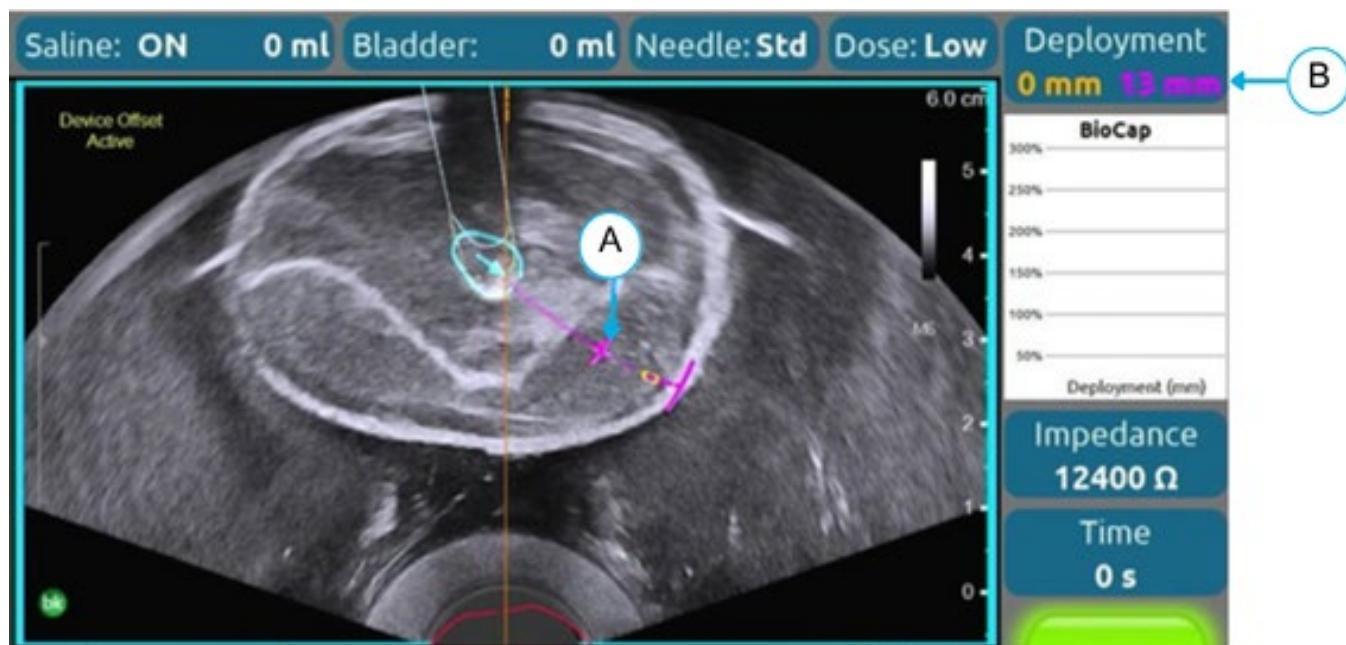

Figure 12-15: Initial Deployment Length
■ **NOTE:** The initial deployment length will display a solid line representing the distance along the predicted Needle trajectory (A). The initial deployment length will also be displayed in mm on the PUI in the upper right corner (B) (Figure 12-15).